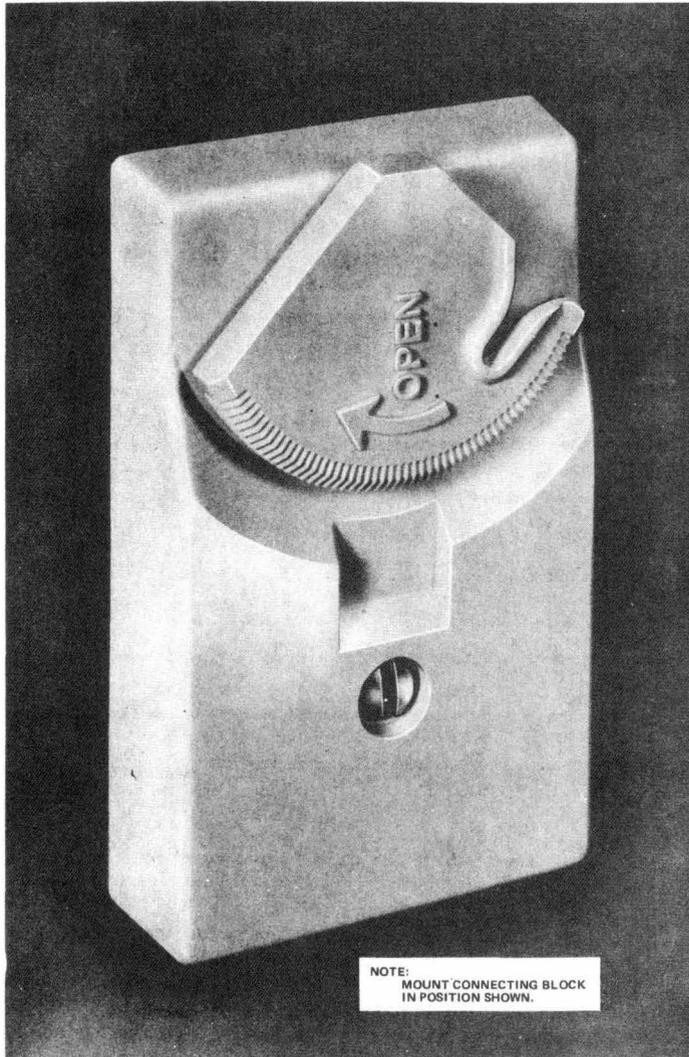

Fig. 5—625S or 625T Connecting Block
2.08 The **625S** connecting block (Fig. 5) is similar to the 625A except it has a customer-operable spring-loaded cover which protects the interior telephone line contact springs from contamination. It is intended for use in areas subject to high humidity and condensation or locations exposed to dripping, washing, or foreign matter. It contains a 42A block.
2.09 The **625T** connecting block (Fig. 5) is the same as the 625S except it does not contain a 42A connecting block. It is used to convert existing 42A or 625-type connecting blocks where extra protection is needed.
3.07 625S Connecting Block: Mount the 42A connecting block on the wall (preferred) or baseboard so that the 625S connecting block cover is positioned as shown in Fig. 5. When mounting on masonry walls, a backboard should always be used.
3.09 **625T Connecting Block:** This connecting block is the same as the 625S except it does not contain a 42A connecting block. This connecting block is to be positioned over existing 42A connecting blocks as shown in Fig. 5.